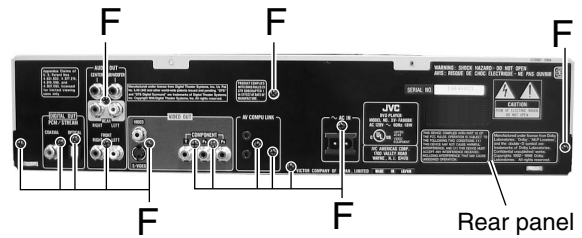

Fig.12
■ Removing the rear panel (See Fig.12)